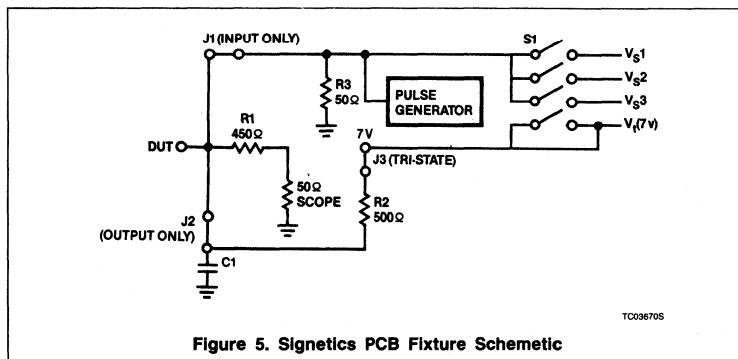
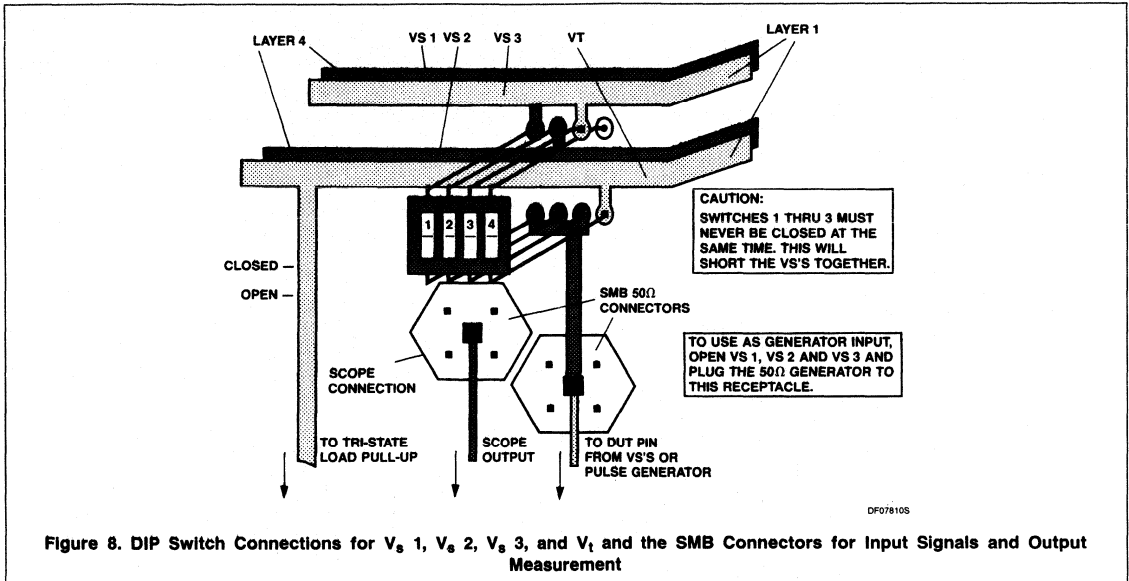

Figure 5. Signetics PCB Fixture Schematic
Figure 8. DIP Switch Connections for  $V_s$  1,  $V_s$  2,  $V_s$  3, and  $V_t$  and the SMB Connectors for Input Signals and Output Measurement
There are two types of signal lines on this fixture: input and output; both of which are 50 $\Omega$  transmission lines. The input line is on the top side of the board and is always terminated in 50 $\Omega$ . It is connected to the DUT via a .3" jumper, Jumper #1 for input. When this jumper is installed, the DUT pin is available only as an input. To allow this line to be used as an output, a .1" jumper, Jumper #1 for output, is used instead of the .3" jumper. This connects the DUT pin to the AC load when the DUT pin is an output. See Figure 5.
hard to detect errors into the waveform. The second reason being that most suppliers of these technologies provide data based upon the Low-impedance approach and most large users of these products do so as well. This also allows the fixture to be used for ECL testing since that product uses a totally 50Ω environment. Figure 5 illustrates how this test fixture implements the 50pF/500Ω load schematically.
As illustrated in Figure 5, the load is shared with the 50Ω input of the measurement system; a 50Ω sampling oscilloscope. The 450Ω resistor: R1, is soldered to the socket pin of the device and is in series with the 50Ω input of the scope. Figure 6 illustrates this on the board layout of one input/output pin. This achieves virtually a probe tip on the device pin. The load capacitor: C1, is a 33pF ceramic chip capacitor. This is added to the measured value of 17pF of board capacitance, achieving the 50pF value specified for the load. The distance from the pin to the capacitor is .5 inches and is adequate for the testing of these product families.
For testing 3-State parameters, the 500Ω resistor: R2, is connected to its pull-up supply: V1 via a .3" jumper: Jumper #2. The V1 supply is bussed to each pin and may or may not be connected with that jumper. See Figures 5 and 6.
When the input is not used for a signal input, the line may be switched to one of three voltage sources:  $V_S 1$  through  $V_S 3$ , by the use of a DIP switch on each pin. It may also be left open and then the  $50\Omega$  pull-down resistor: R1, pulls the line to ground and can be used as a hard low level. See Figure 5. These voltage levels are brought in from external supplies through banana connectors like  $V_{CC}$ . This scheme eliminates excessive cabling to each input to provide the static input levels and thereby reduces parasitic inductances and cross-talk. Each of the 3 busses and the  $V_t$  bus all have places for by-pass capacitors in the event of noise on the static levels. Figure 8 illustrates the DIP switch and SMB connectors and how they control the input stimulus and output measurement.
As stated previously, the measurements are made with  $50\Omega$  sampling systems. The connections to these systems are made via SMB connectors. This was chosen since it is compatible with SMC; it is push-on, it is small for easy configuration, and it is capable of high bandwidth operation. Figure 8 illustrates where the connections are made, where the pulse generators connect to the input and an SMB connector. Since the  $450\Omega$  resistor: R1, is soldered directly to the pin of the device, the actual probe tip is at that point. See Figure 6. This has the advantage of eliminating any distance from the device to the probe tip, thus guaranteeing accurate results.
dedicated fixture. However, on a dedicated fixture, the pins are individually constructed to be either an input or an output, and in so doing, the fixture is usable for 1-to-4 devices. The Philips fixture, once dedicated to a particular  $V_{CC}$  and GND configuration, is built up to have both input and output components on all signal pins. The selection of which pin is an output or an input is made by inserting the appropriate jumper, See Figures 5 and 6. The same applies in doing tri-state testing. The tradeoff here is that it would probably take less time to setup the dedicated fixture than the Philips fixture. To help compensate for that tradeoff, we have the three  $V_S$  supplies that may be switched into any pin to provide input static levels and eliminate the need to bus input High or Low levels by external cabling. For the user that means the only connections being made to the fixture are:
- the  $V_t$  supply (banana jack): this is the tri-state pull-up voltage and is permanently connected to the bus to each pin. It is selectable by Jumper #2, see Figures 5 and 6. For FAST and ALS products this is 7V. For ACL products this is  $V_{CC} \times 2$  and it is not used for ECL applications.